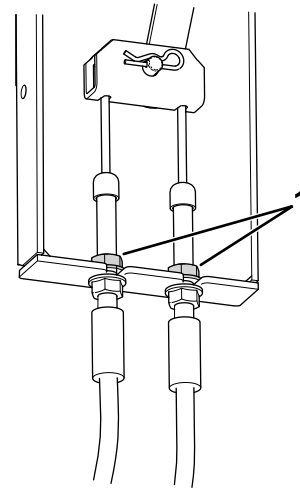

Figure 73
3. Locate the brake-cable mount (Figure 73) under the left side of the machine near the left wheel.